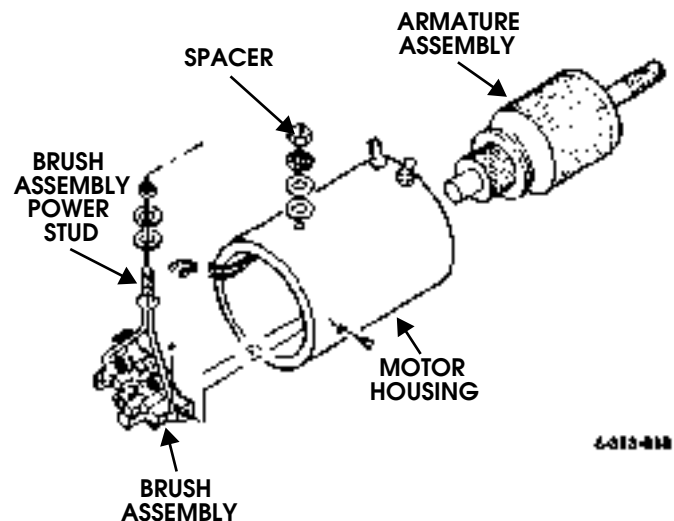

Figure 13-24: Brush Assembly and Armature Assembly
8. Remove motor housing from drum support and armature assembly from brush assembly (Figure 13-24).
1. Install washer, insulator, and spacer on brush assembly power stud (Figure 13-24).